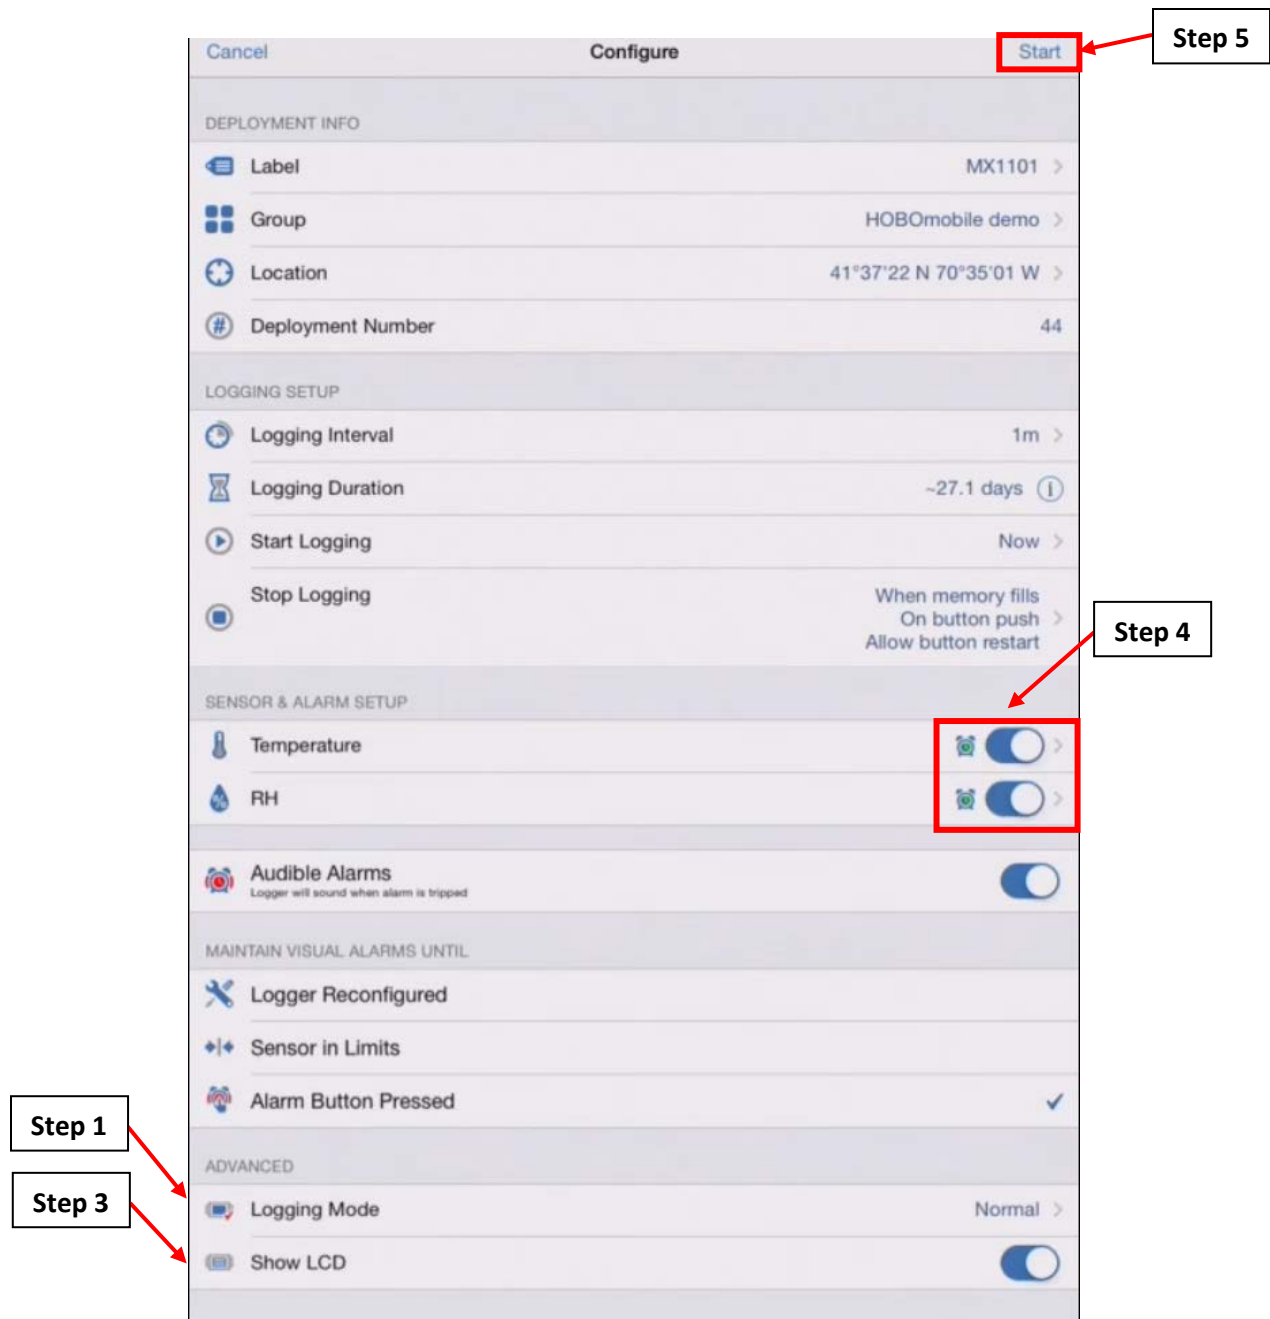

Figure A.6.10: The "Configure" screen.
3. At the “Configure” screen (Figure A.6.10), identify if the LCD screen should remain on. If the logger will be deployed for more than one month, turn off the screen to conserve battery life.
4. Make sure that both the “Temperature” and “RH” sensors are activated as shown on Figure A.6.10. The circular sliders should be on the right. If not, tap on the sliders to shift them from the left to the right.